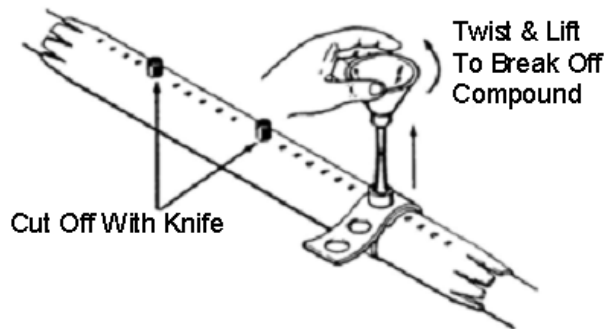

Figure 15
1. Remove funnel by twisting and lifting, breaking off from compound. (Figure 15)
2. Remove mold straps and funnel supports. (Figure 15)
3. Carefully cut off spout compound protrusions from repair, using a knife. (Figure 15)